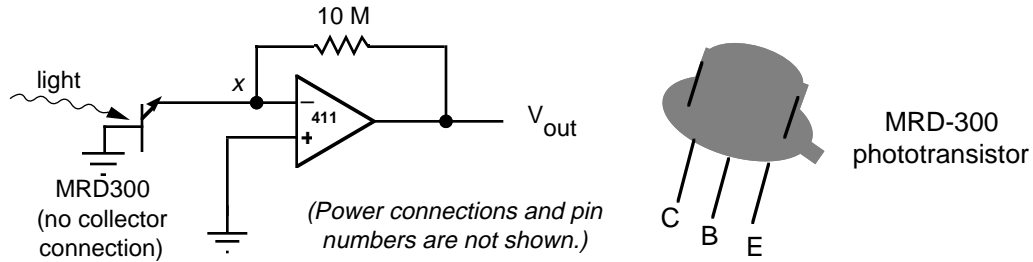

Fig. 9.1
a) Connect the MRD-300 as a photodiode and use a  $10\text{ M}\Omega$  feedback resistor as in Fig 9.1. If the output voltage is too large, reduce the resistor to  $1\text{ M}\Omega$ . If you see fuzz on the output try a  $0.001\text{ }\mu\text{F}$  capacitor across the feedback resistor. (How does this capacitor affect the feedback at high frequencies?) Connecting the output of the op amp to the scope, you should see the modulations from the lab's fluorescent lights. What is the photocurrent produced by the MRD-300? Cover the phototransistor with your hand to make sure it's the lights you are seeing. Look at the summing junction, X, with the scope as  $V_{\text{out}}$  varies. Why is it better to use this op amp rather than just a  $10\text{ M}\Omega$  resistor?